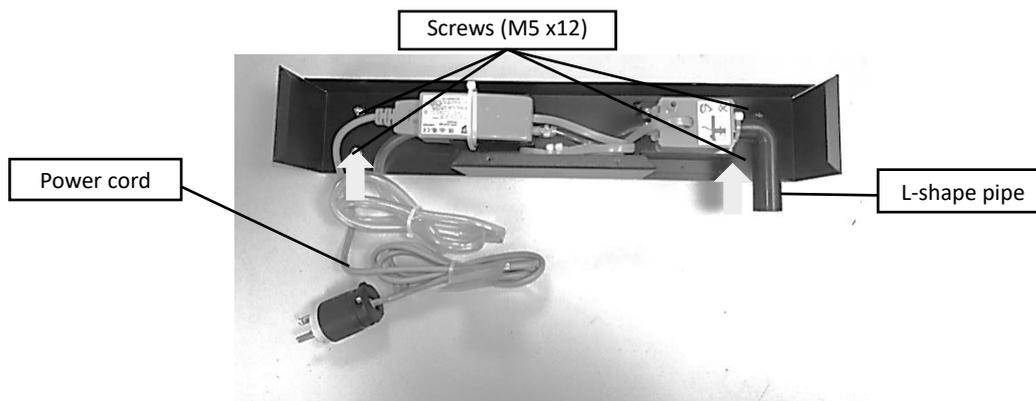

Figure 3-17 Internal Structure of Water Pump Bracket
2. Install the power cord and the L-shape pipe, as shown in **Figure 3-17**.
3. Loosen the four screws in **Figure 3-17** for about four turns.
6. Tighten the four screws to fix the pump bracket part 1, as shown in **Figure 3-17**.